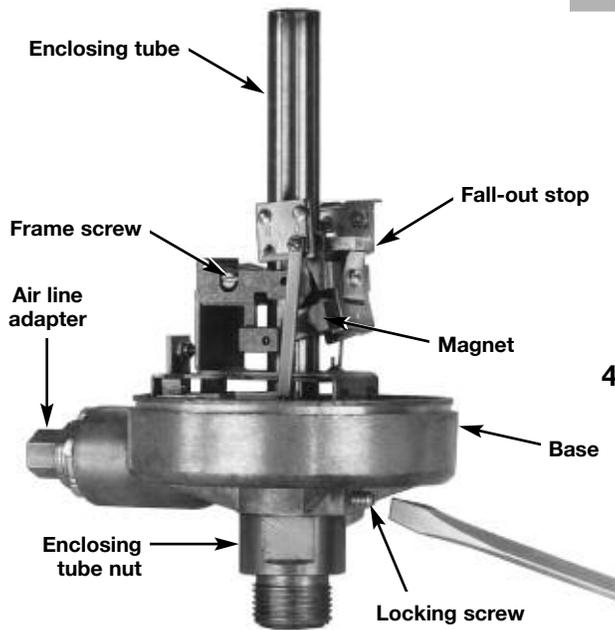

Figure 5
1. Loosen both the locking screw above the enclosing tube nut and the frame screw. Refer to Figure 5.
2. Loosen both the locking screw above the enclosing tube nut, and the frame screw approximately 3 to 4 turns. Refer to Figure 5.
- a. Hold the magnet against the fall out stop. Refer to Figure 5 on page 5.